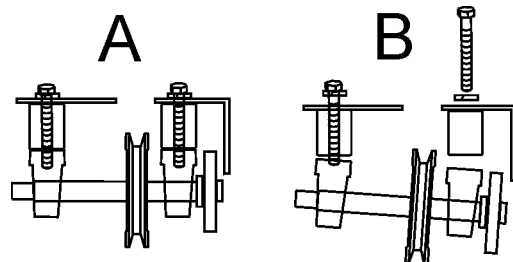

Figure 10. V-Belt Removal
- Remove the two outer arbor shaft hex screws allowing the outside of the shaft to drop, (B in Figure 10), allowing removal of the V-belt.